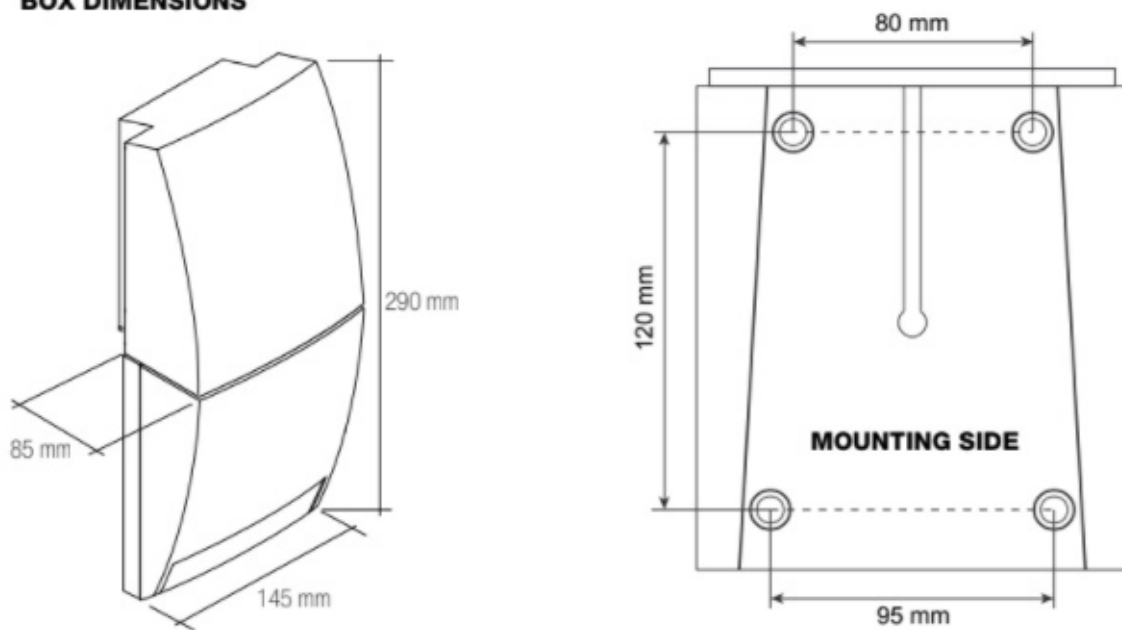
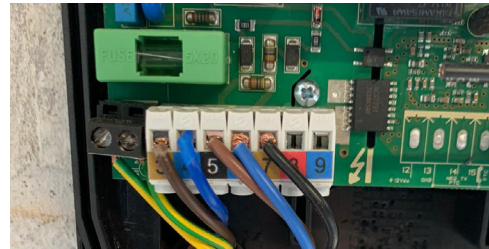

fig.2
fig.3 - Right Hand Motor
- 3** Place the Receiver box on the wall with the cable pointing downwards at a comfortable height to operate the push buttons, but out of the easy reach of children. Between 1500mm up from the floor and 300mm down from the roof/ceiling is recommended, mark the 4 fixings, drill and secure the unit to the wall (**fig.2**).
- 5** The Glands at the bottom are for the cables to be inserted, (1) motor wire (2) power wire (3) safety brake if supplied.
- 6** Wiring as follows (**fig.3 & 4**):